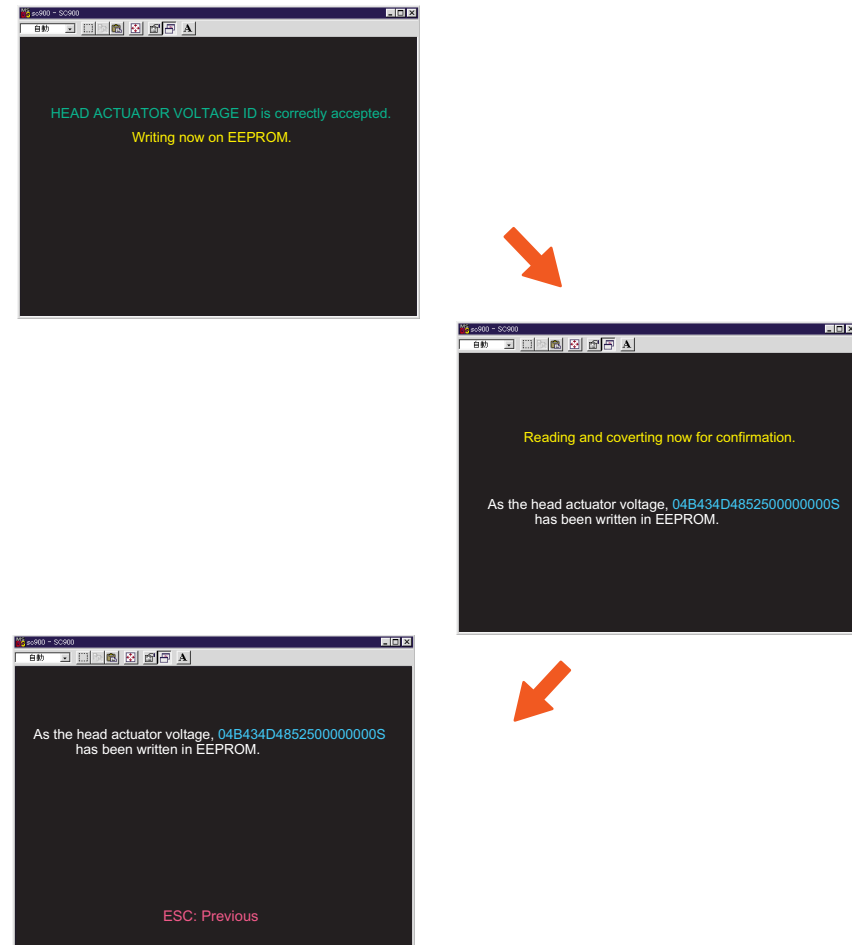

Figure 5-12. 22-digit ID Input Sequence
10. When the 22-digit ID has been correctly input, the following 3 screens appear in sequence as shown in Figure 5-12, and the ID is registered in the printer's RAM. (Though the screen messages indicate that the ID has been input in the EEPROM, it is actually written into the EEPROM when the printer is turned off.)